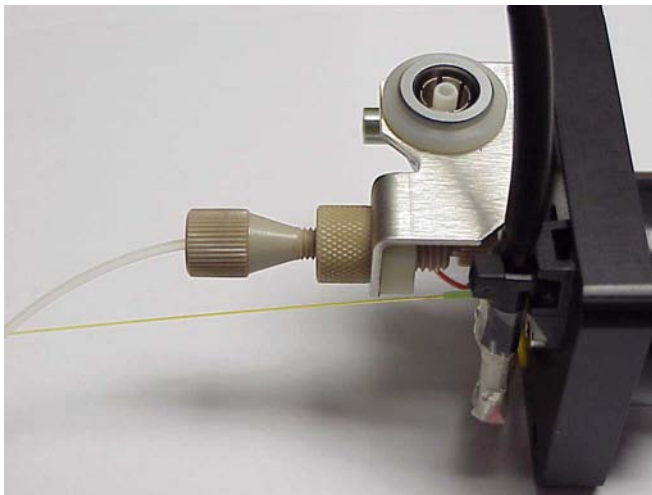

Figure 6-21 Preparing the Nebulizing PTFE Tube
- b. Using the 1/16 inch tee split the nanoflow gas supply into two feeds. Attach the end of the reference probe PTFE tube to the tee and tighten until the ferrule grips (Figure 6-21).